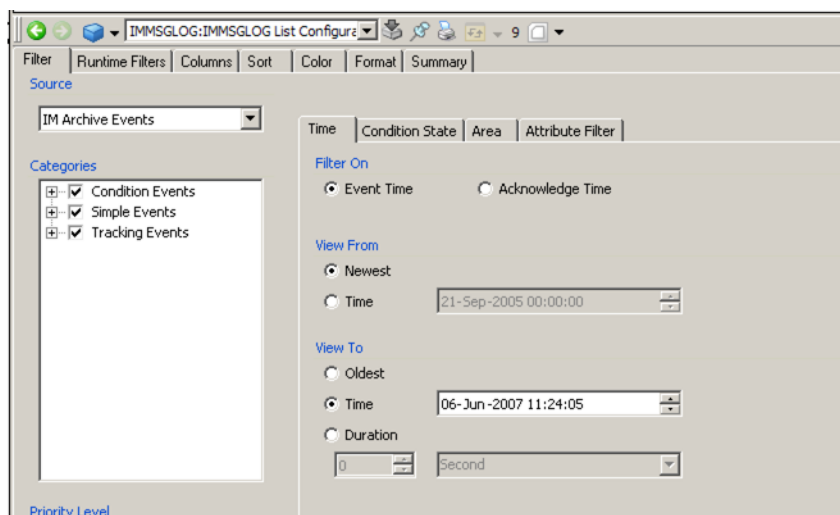

Figure 104. Configuring the Event Source
4. Configure the Source on the Filter tab of the Alarm and Event List Configuration aspect to direct the Alarm and Event List aspect to read from the Information Management message log. To do this (reference Figure 104):